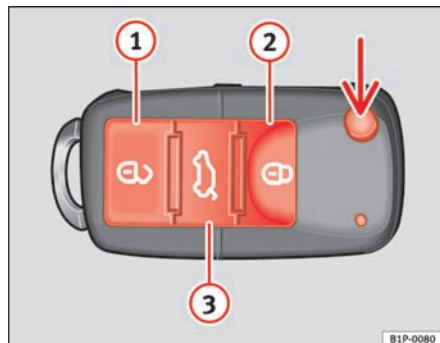

Fig. 43 Assignment of buttons on the remote control key
Using the button $\Rightarrow$ fig. 43 (arrow) on the control, the key shaft is released.
Unlocking the vehicle $\Rightarrow$ fig. 43 ①.
Locking the vehicle $\Rightarrow$ fig. 43 ②.
Unlocking the tailgate. Press the button $\Rightarrow$ fig. 43 ③ until all vehicle indicators briefly flash. When the unlocking button $\Rightarrow$ fig. 43 ③ is pressed, you have 2 minutes to open the door. Once this time has passed, it will lock once more.
To **unlock**, place the key within the scope, pointing towards the vehicle and briefly press the unlock button $\Rightarrow$ fig. 43 ①. The indicators flash twice. To **lock** the vehicle, press the lock button briefly $\Rightarrow$ fig. 43 ②. The indicators flash once. ▶
When the button (🔓 ④) ⇒ page 79, fig. 43 ① is pressed once, only the driver's door will unlock, while the others will remain locked.
Press the button (🔓 ④) ⇒ page 79, fig. 43 ① twice to unlock all doors.